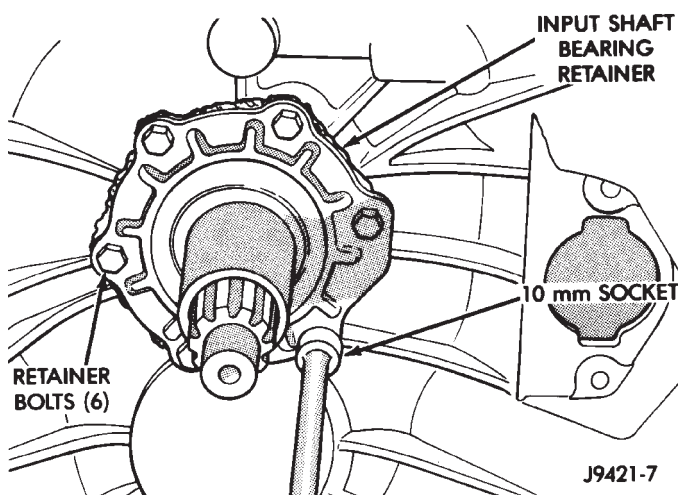

Fig. 133 Installing Input Shaft Bearing Retainer Bolts
(21) Install and tighten bearing retainer bolts to 7-10 N·m (5-7 ft. lbs.) torque (Fig. 133).